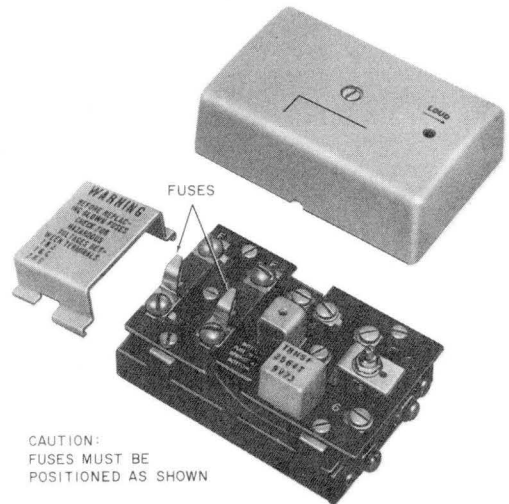

Fig. 9—33A Voice Coupler
**2.12** The 33A voice coupler (Fig. 9) is an interconnecting unit which provides a point of connection for a customer-provided music source used with music-on-hold and background music. It is wall-mounted externally from the KSU. A potentiometer (with screwdriver adjustment slot) controls the level of the background music. The unit contains two fuses for protection against hazardous voltages from the CP music source.